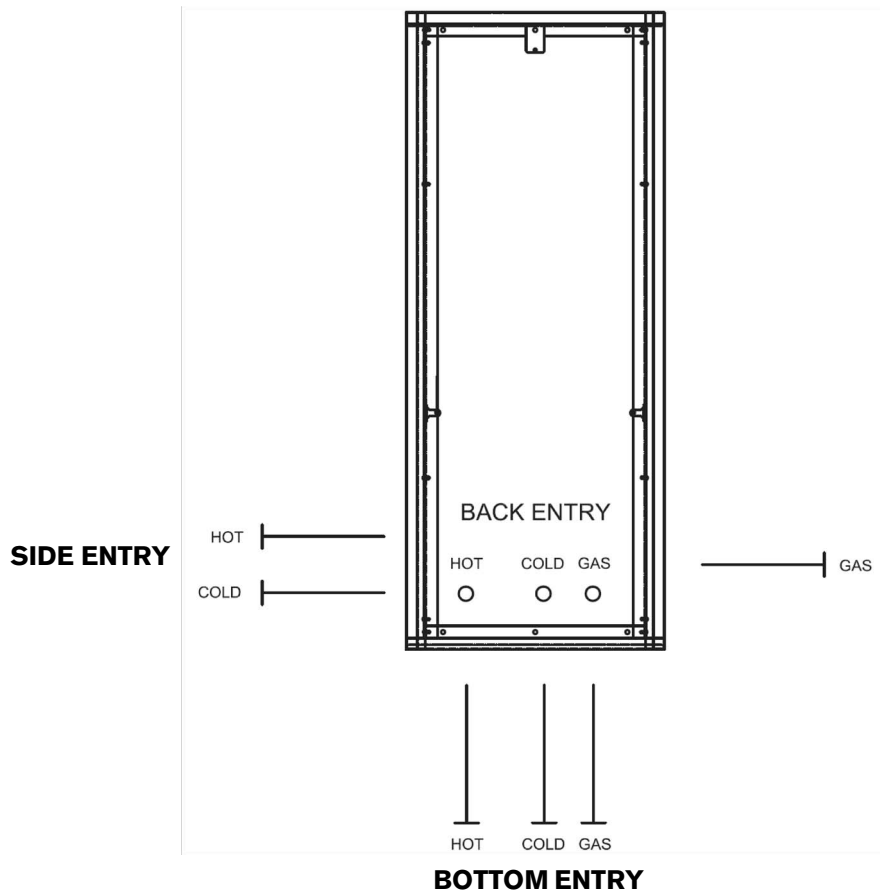

Fig. 2 Piping options
- Drill 3 holes in the recess box to accommodate the water and gas lines. Suggestions for the holes are shown in Fig. 2.